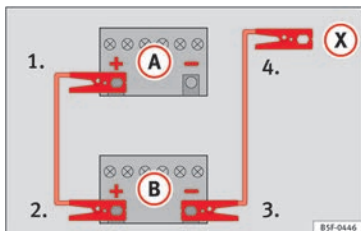

Fig. 163 Diagram of connections for vehicles without Start-Stop system.
2. Connect one end of the *red* jump lead to the positive terminal of the vehicle with the flat battery » Fig. 163.
4. **For vehicles without Start-Stop system:** connect one end of the *black* jump lead to the negative terminal in the vehicle providing assistance » Fig. 163.